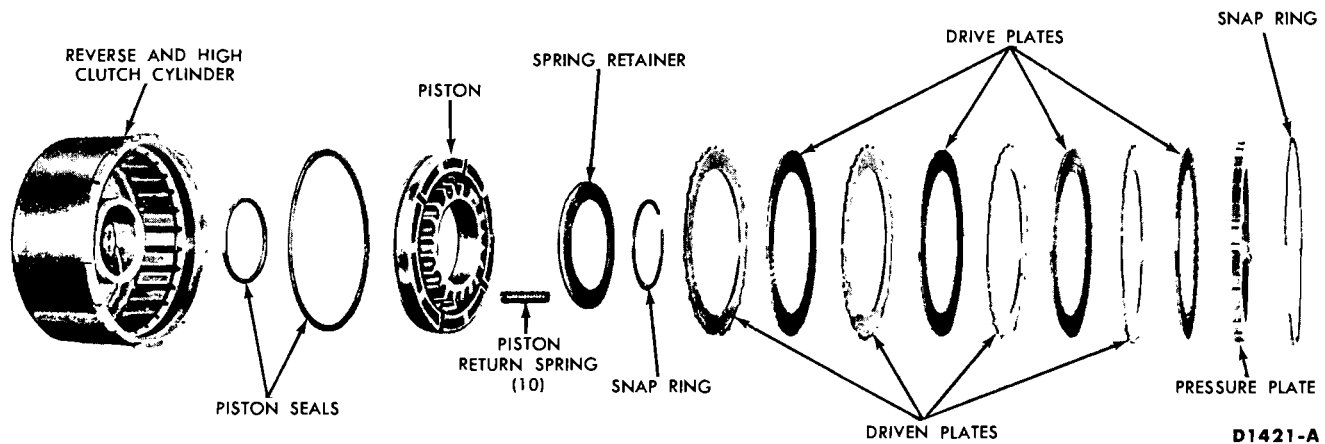

FIG. 81—Reverse-High Clutch Disassembled
11. When new composition clutch plates are used, soak the plates in transmission oil for fifteen minutes before the plates are assembled. Install the clutch plates alternately by starting first with a steel plate then a non-metallic plate (Fig. 81). The last plate installed is the pressure plate. For the correct number of clutch plates required for each transmission model, refer to Part 7-4.
2. Remove the pressure plate, and the drive and driven clutch plates. (Fig. 81). If the composition clutch plates are to be reused, do not clean the plates in a vapor degreaser or